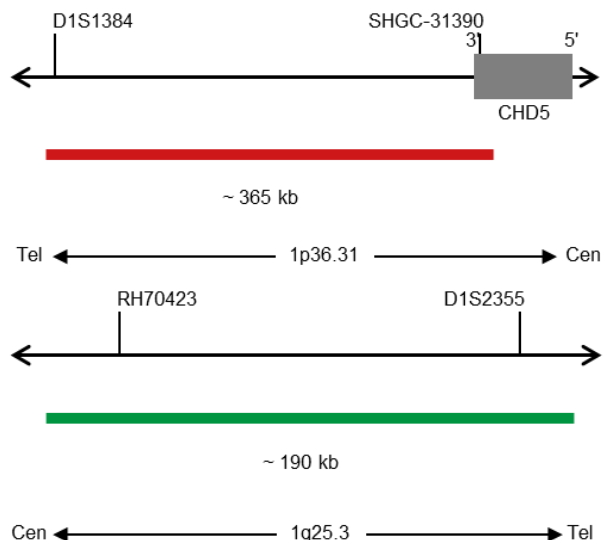

Fig. 1: Top: SPEC 1p36 Probe map; SPEC 1q25 Probe map (not to scale)
- Dinitrophenyl-labeled polynucleotides (~1.7 ng/μl), which target sequences mapping in 1p36.31\* (chr1:5,808,946-6,176,336) (see Fig. 1).
- Digoxigenin-labeled polynucleotides (~1.7 ng/μl), which target sequences mapping in 1q25.3\* (chr1:184,562,510-184,752,938) (see Fig. 1).